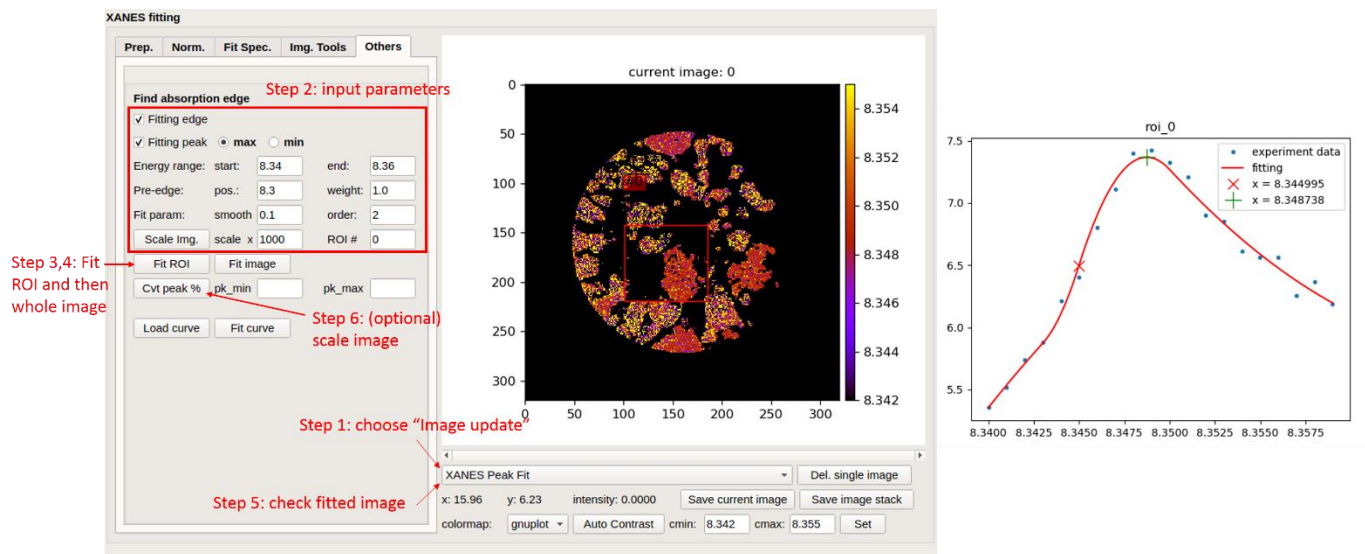

Fig. 6. Fitting peak position of XANES spectrum
Fit XANES peak position (Tab: Others) (Fig. 6)
2. Under section of “Other”, input the estimated peak position range. See Fig. 6 left.
- b. Click “Fit ROI”, it will generate a figure showing the fitting results and indicate the peak position. (Fig. 6 right)